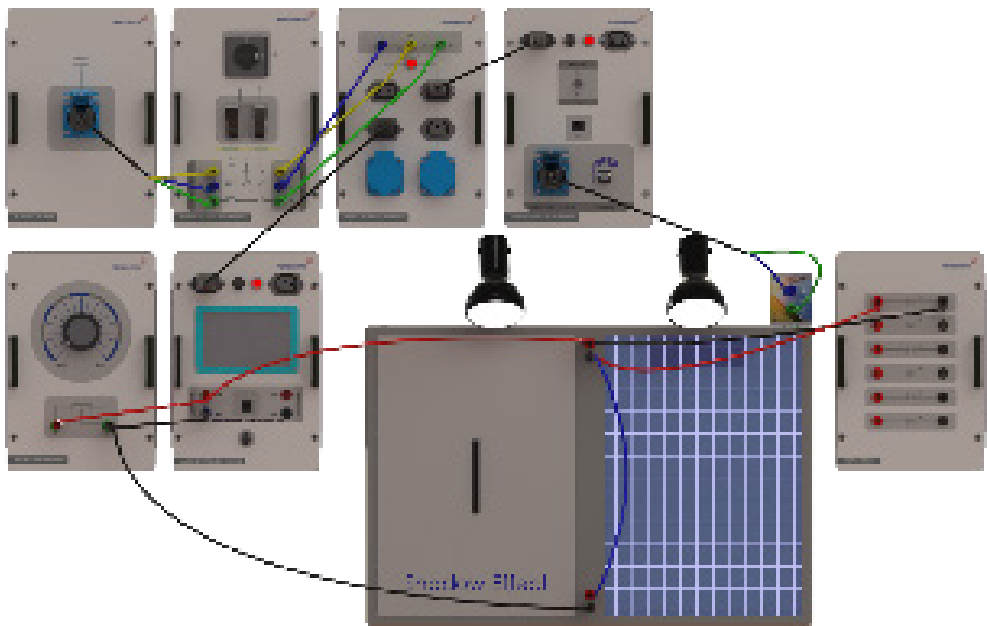

Figure-4
- 9) Use the shadowing device to shadow panel-1 as shown in figure-4. Record in chart-1 the value observed on the voltmeter placed on the AC/DC Measurement Module under this circumstance.